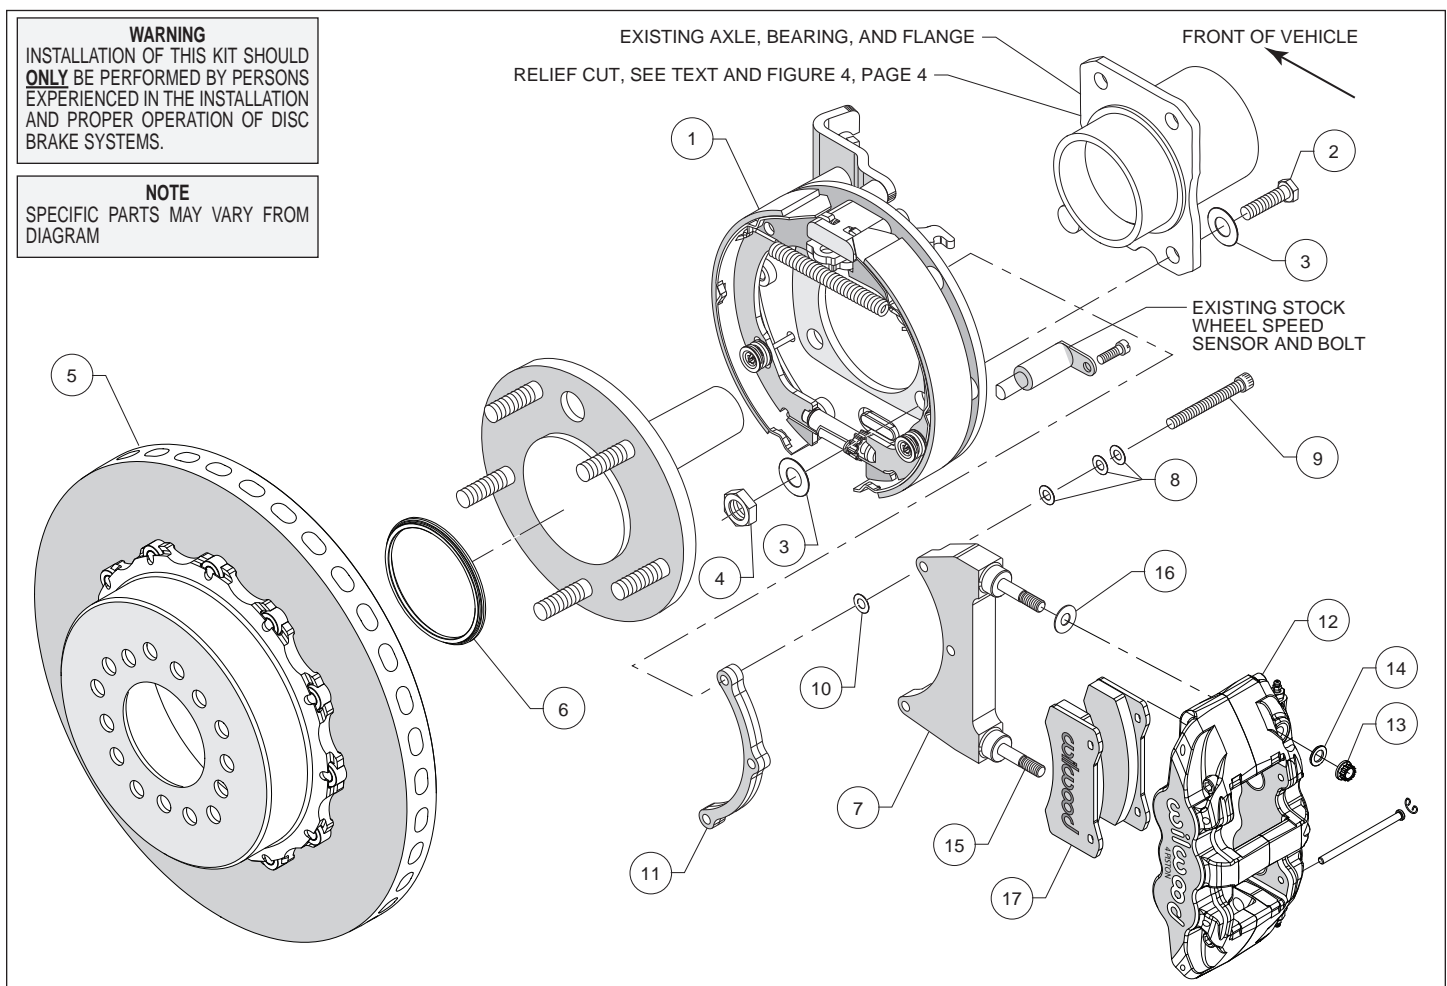
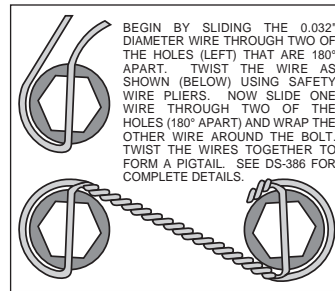

Figure 1. Typical Installation Configuration
Figure 5. Safety Wire Diagram
**Assembly Instructions** (numbers in parenthesis refer to the parts list, and Figure 1 on the preceding pages): **CAUTION:** All mounting bolts must fully engage threaded holes.
- Orient the bracket assembly (1), as shown in Figure 1, and mount to the axle housing flange using bolts (2), washers (3) and nuts (4), Figure 1. Ensure that the bracket assembly backing plate fits flush against the axle housing flange. Apply red *Loctite*® 271 to the bolt threads and torque to 30 ft-lbs.
- The hat/rotor assembly (5) has been pre-assembled at the factory using red *Loctite*® 271 on the mounting bolts and torqued to specification. For an added measure of security, the bolts may be safety wired using standard 0.032 inch diameter stainless steel safety wire as shown in Figure 5. Please refer to Wilwood's data sheet DS-386 (available at [www.wilwood.com/Pdf/DataSheets/ds386.pdf](http://www.wilwood.com/Pdf/DataSheets/ds386.pdf)) for complete safety wire installation instructions.
- Slide the rotor registration adapter (6) onto the axle flange with the smaller O.D. facing toward the rotor/hat, Photo 1.
- Align the correct hole pattern in the rotor/hat with the stud pattern on the axle flange and slide into place, Figure 1 and Photo 2. **NOTE:** The rotor/hat must fit flush against the axle flange or excessive rotor run out may result. Install three lug nuts (finger tight) to keep the rotor/hat assembly in place while continuing with the installation. **NOTE:** Some OEM and after market axles come with stud sizes larger than 0.50" diameter. Verify stud size and have a qualified machine shop drill the bolt circle of the hat/rotor to the correct stud size, if necessary.
- NOTE:** Please reference the caution statement at the beginning of the assembly instructions. The caliper mounting bracket (7) should be installed first with clean, dry threads on the mounting bolts. Install the caliper bracket to the bracket kit assembly (1) using bolts (9), three washers (8), and spacer (11), as shown in Figure 1. Initially place one .015" thick shim (10) on each bolt between spacer and the caliper bracket. Temporarily tighten the mounting bolts. **NOTE:** The bracket must tighten squarely against the back side of the bracket kit assembly. Inspect for interference from casting irregularities, machining ridges, burrs, etc. Later, after the caliper alignment has been checked, the mount bolts will be secured using red *Loctite*® 271.
- NOTE:** This kit contains distinct right and left hand calipers that must be mounted in a specific direction, as described below. Lubricate the caliper mounting studs (15) with lightweight oil. Initially place one .030" thick shim (16) on each stud between the caliper and the bracket, as shown in Figure 1 and Photo 3. Mount the caliper (12) onto the bracket (7) using lock nuts (13) and washers (14), Figure 1. Temporarily tighten the lock nuts. Ensure that the caliper is mounted so the largest pistons are at the rotor exit end of the caliper, in relation to the direction of the rotor. View the rotor through the top opening of the caliper. The rotor should be centered in the caliper, Photo 4. If not, adjust by adding or subtracting shims (10) between the bracket and the spacer. Always use the same amount of shims on each of the three mounting bolts. **NOTE:** The ends of the mounting bolts must fully engage, but not exceed, the inside face of the clinch nuts in the backing plate. If needed, add or subtract spare shims (10) and/or washers (8) under the bracket bolt heads to achieve proper clinch nut engagement. Once the caliper alignment and clinch nut engagement are correct, remove the bracket mounting bolts one at a time, apply red *Loctite*® 271 to the threads, and torque to 220 **in-lbs**.
- Remove the two pad retaining pins from the caliper (12) by carefully popping out the pin retaining clips and sliding out the pins. Insert the brake pads (17) into the caliper from the bottom, Figure 1 and Photo 5. With the friction material facing the rotor, secure the brake pads in place with the pad retaining pins and clips, Photo 6. Reinstall the caliper onto the caliper mounting bracket and temporarily tighten the lock nuts. Check that the top of the brake pad is flush with the outside diameter of the rotor, Photo 7. If not, adjust by adding or subtracting shims (11) between the caliper and the bracket. After the caliper pad height is set, torque the caliper lock nuts (13) to 47 ft-lb.